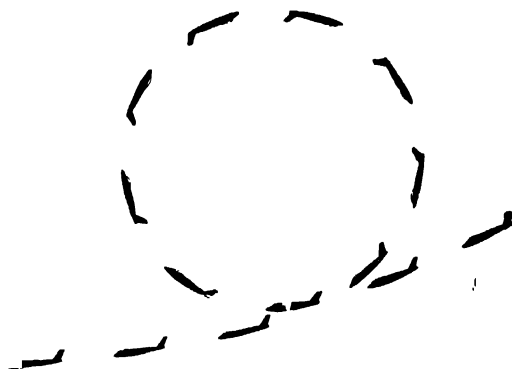

FIG. 1. THE LOOP
1. **THE LOOP.** This is probably the oldest and most popular aerobatic, in which the pilot acquires speed by diving with the throttle open. He pulls back the control column or 'stick', so that the aircraft climbs (*see FLYING*). The stick is held in position until the machine is upside down. The throttle is then closed, allowing the machine to drop and complete a circle (Fig. 1). A variation of the loop is a rocket loop, in which a higher initial speed is required and the stick is brought back rather more quickly. When the aircraft is in a vertical climbing position, point-